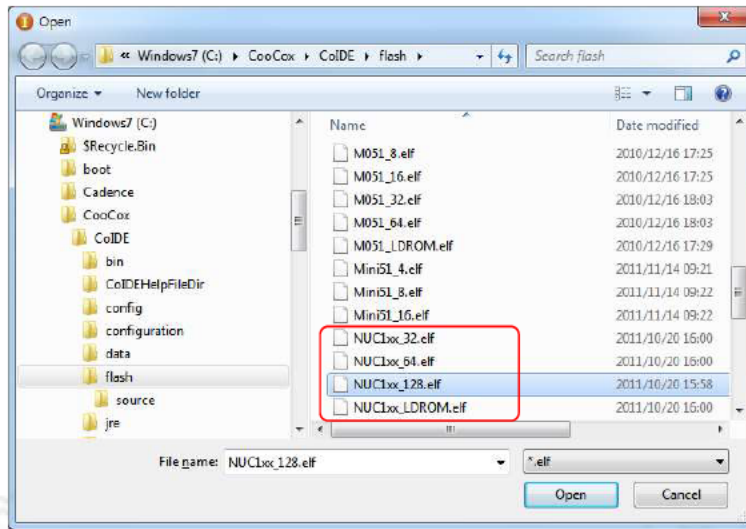

Figure 4-22 Set the Programming Algorithm File for Coocox CoIDE
Step 5: To ensure the firmware will be downloaded to APROM or LDROM, select *NUC1xx_128.elf* or *NUC1xx_LDROM.elf* file (NUC100 series is used in this case) as shown in Figure 4-22; “32, 64, or 128” in the file name means the capacity of APROM. If no specific file is founded, specify the following path “C:\CooCox\CoIDE\flash”.